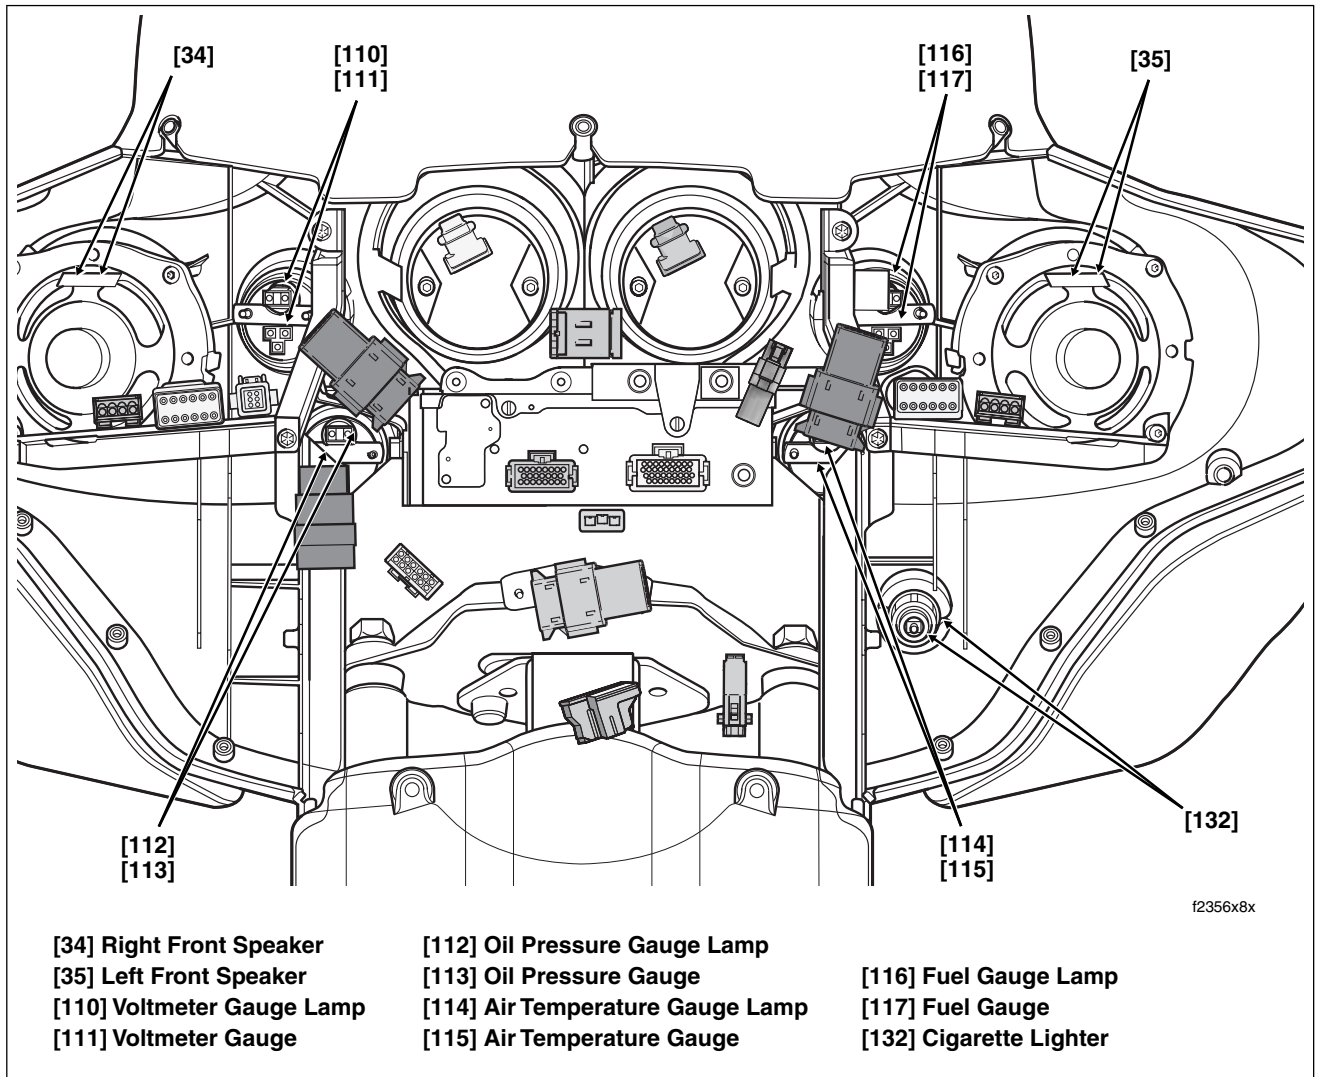

Figure 8-173. Inner Fairing - Interconnect Harness Connectors (FLHX, FLHTC/U)
- 8. See Figure 8-173. Remove connectors from spade contacts as follows:
11. See Figure 8-173. Remove connectors from spade contacts as follows: